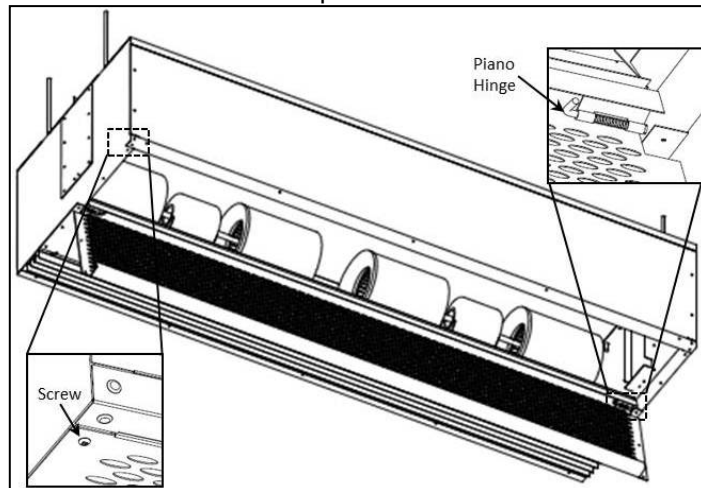

FIG 1
2. The intake screen can be opened by removing the two screws on the bottom of the unit. The screen can be removed from the unit by pulling the spring-loaded piano hinges. (FIG. 1)